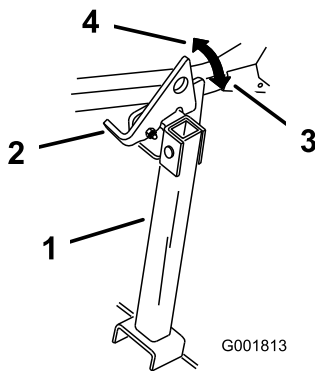

Figure 43
2. Raise the latch to the unlocked position (Figure 43).